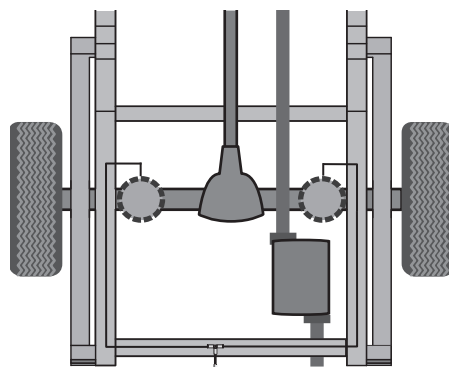
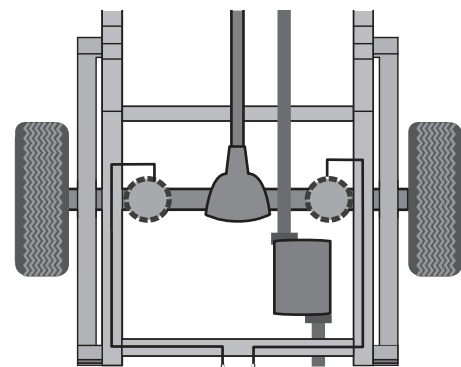

fig. 9
fig. 10
A single-path air line installation is recommended for vehicles that typically have even weight distribution (Fig. 9). If weight in the vehicle varies from side to side and unequal pressures are needed to level the load, use a dual-path installation. For dual-path air line installations, eliminate the tee fitting (J) and route separate air lines for both air springs (Fig. 10).